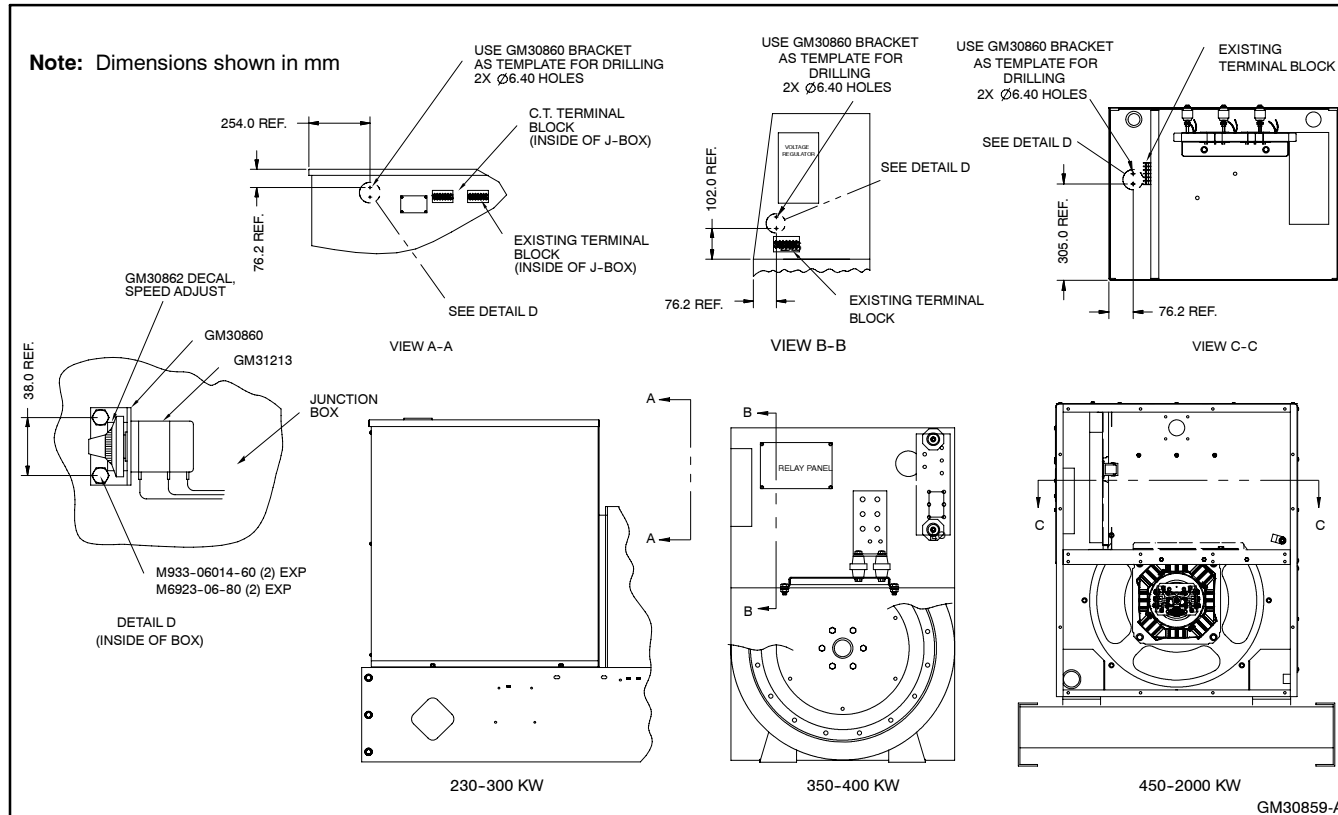

Figure 3 Remote Speed Potentiometer Installation
- 2.2 Select a location on the junction box for mounting the kit. Recommended locations are shown in Figure 3.
- 2.6 Attach bracket GM30860 to junction box using two screws (M933-06014-60) and nuts (M6923-06-80) as shown in Figure 3. Mount the bracket where the decal side of the bracket is facing toward the user.